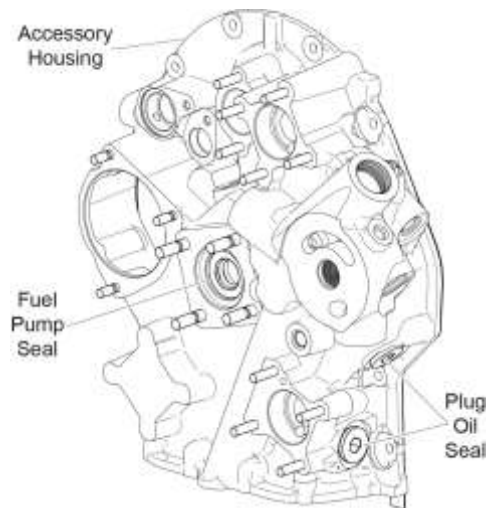

Figure 5
- B. Install plugs, plug O-ring, plug oil seals, and seals in the accessory housing (Figures 5 and 6).